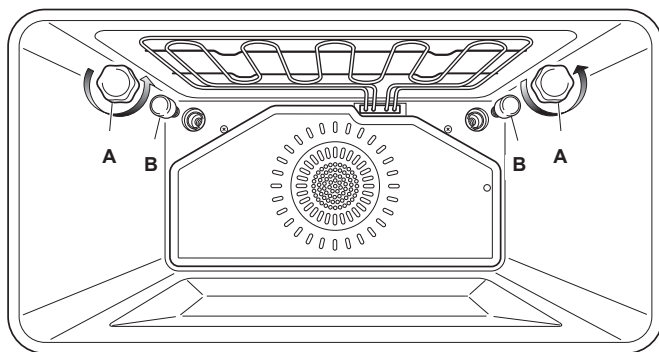

Fig. 7.8
- Remove the protective cover “A” (fig. 7.8).